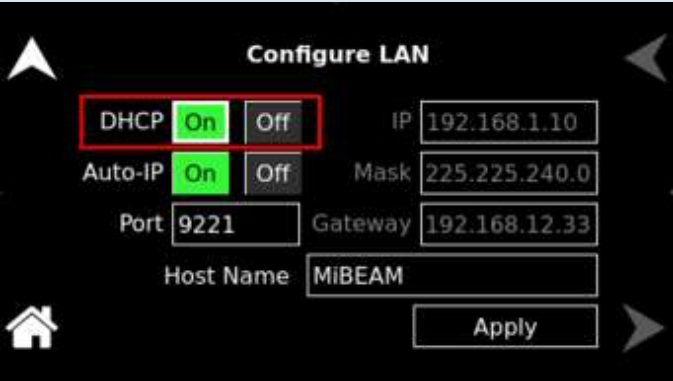

Figure 11-121. LAN Screen – DHCP
- **DHCP:** Selects whether DHCP is enabled or disabled. Refer to Figure 11-121.